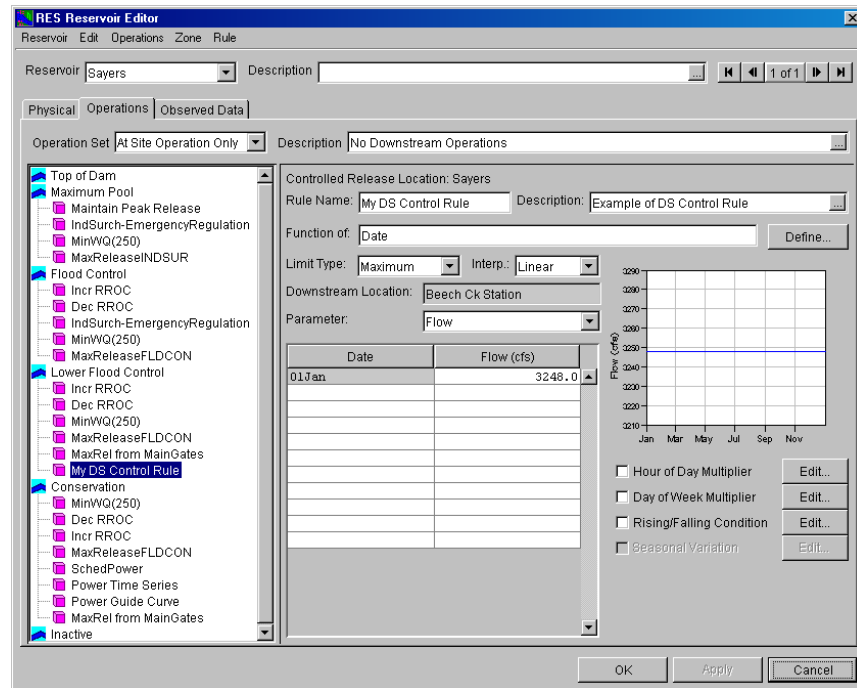

Figure 11.18 Reservoir Editor--Example of a Downstream Control Function Rule
- To define your downstream control rule, refer to Section 11.5.3 detailing how to define a Release Function rule. The Downstream Control Function rule editor is essentially the same as the Release Function rule editor. The only significant difference is that you have the option of defining the rule as a minimum or maximum **Flow** or **Stage** parameter limit at the downstream control point (see example in Figure 11.18).